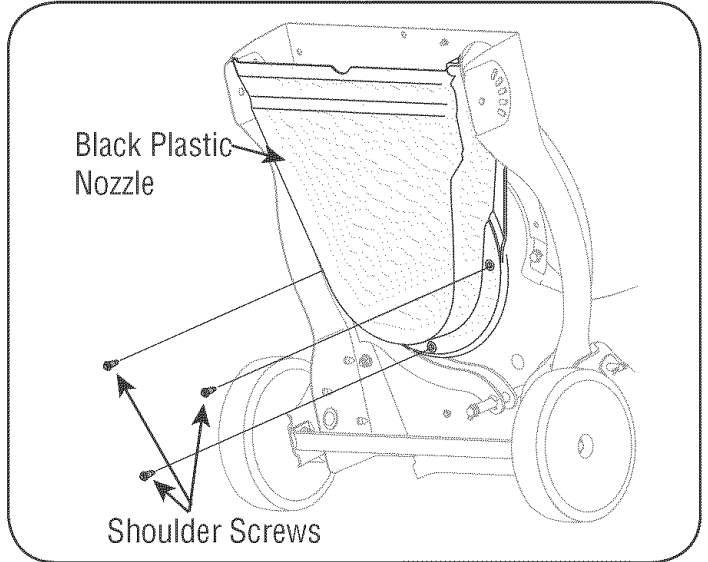

Figure 19
7. Carefully tilt and support the unit up to provide access underneath to the nozzle mounting hardware and impeller. Remove the three shoulder bolts securing the black plastic lower flail housing to the lower housing. Refer to Figure 19.